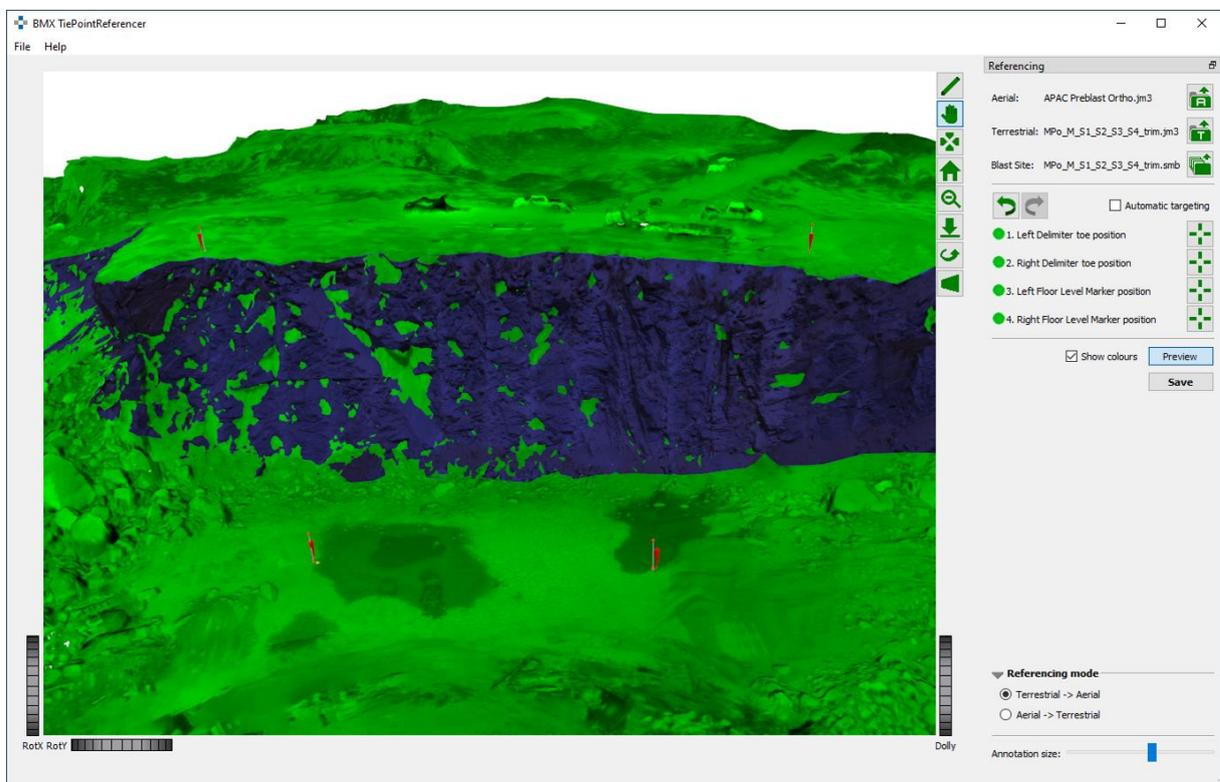

Figure 5: Recoloured models: Aerial 3D Model in green and Terrestrial 3D Model in violet
12. Check the alignment of the 3D models for plausibility with a mouse click on “Show Colours” Show colours . The 3D models are recoloured in the 3D viewer, i.e. the *Aerial 3D Model* appears green and the *Terrestrial 3D Model* appears violet. A proper alignment is reached if the two models cut through each other (see Figure 5).